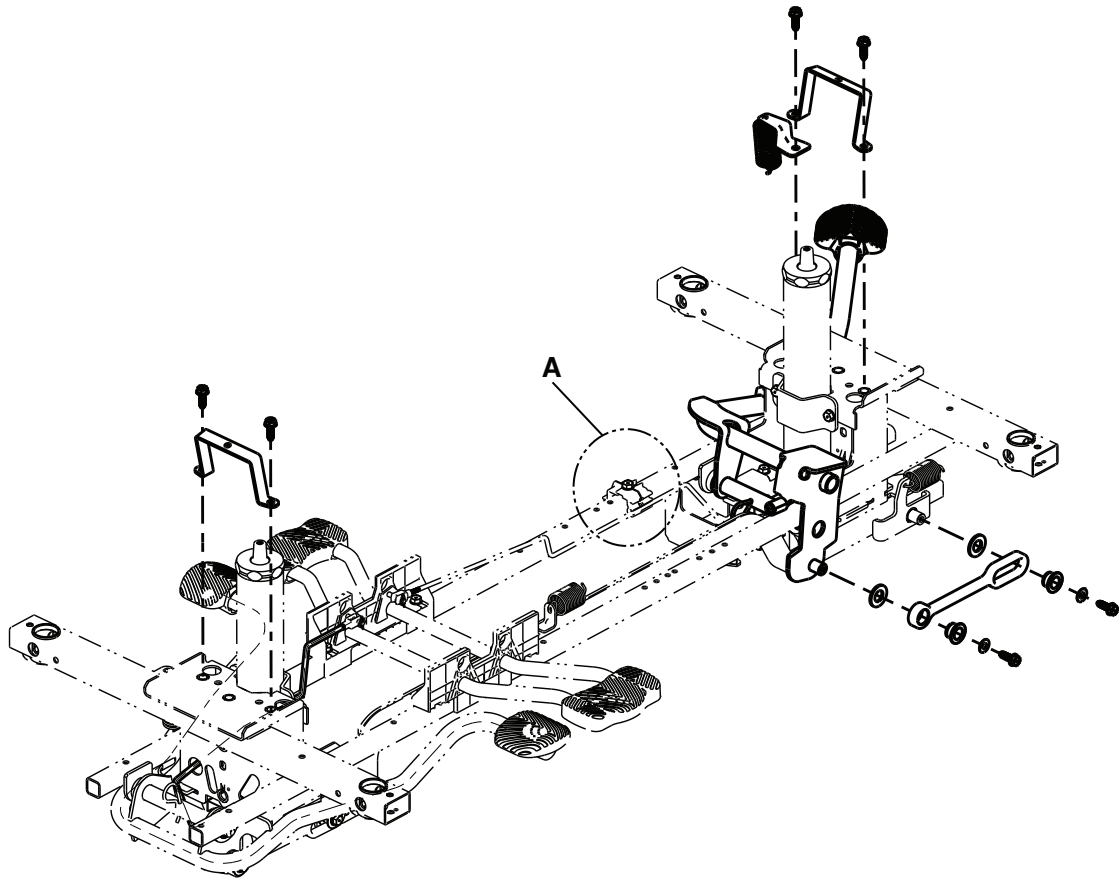

Figure 18 – Release rod brackets
5. Unsnap the foot end pedal release rods from the white plastic release rod brackets (A) (Figure 18).